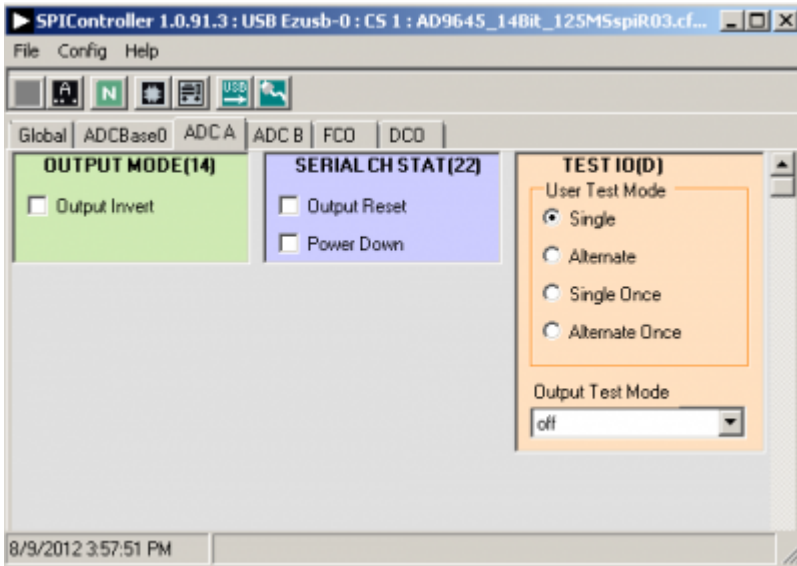

Figure 10. SPI Controller, Example ADC
- Note that other settings can be changed on the **ADCBASE 0** tab (see Figure 9) and the **ADC A** and **ADC B** tabs (see Figure 10) to set up the part in the desired mode. The **ADCBASE 0** tab settings affect the entire part, whereas the settings on the **ADC A** and **ADC B** tabs affect the selected channel only. See the appropriate part data sheet, the AN-878 Application Note, High Speed ADC SPI Control Software, and the AN-877 Application Note, Interfacing to High Speed ADCs via SPI, for additional information on the available settings.